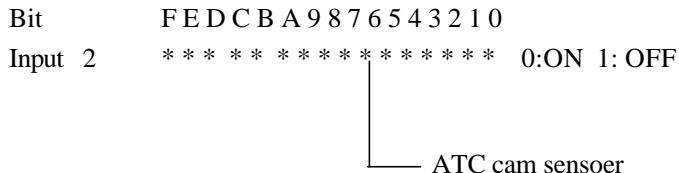

Fig. 1 Input/output screen (MAIN 1) Input 2
4. For the cause 3, check if the value of the bit 6 of input 2 (refer to the fig. 1) on the input output screen (ATC IO) changes during magazine rotation. If not, ATC cam screen or ATC cam sensor cable is damaged. Replace the part with new one.